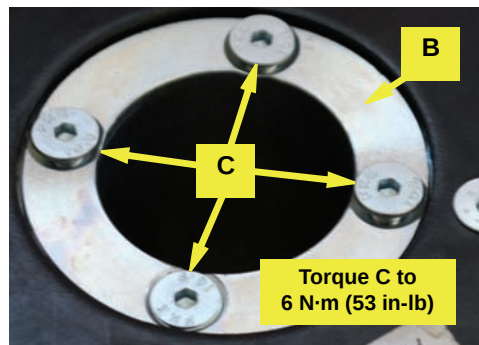

Figure 1c: Securing the shaft adapter. See **Warning**.
- c. Using the four countersunk screws **C**, secure the shaft adapter **B** in the steering wheel. Torque the screws to **6 N·m (53 in-lb)** (Figure 1c).